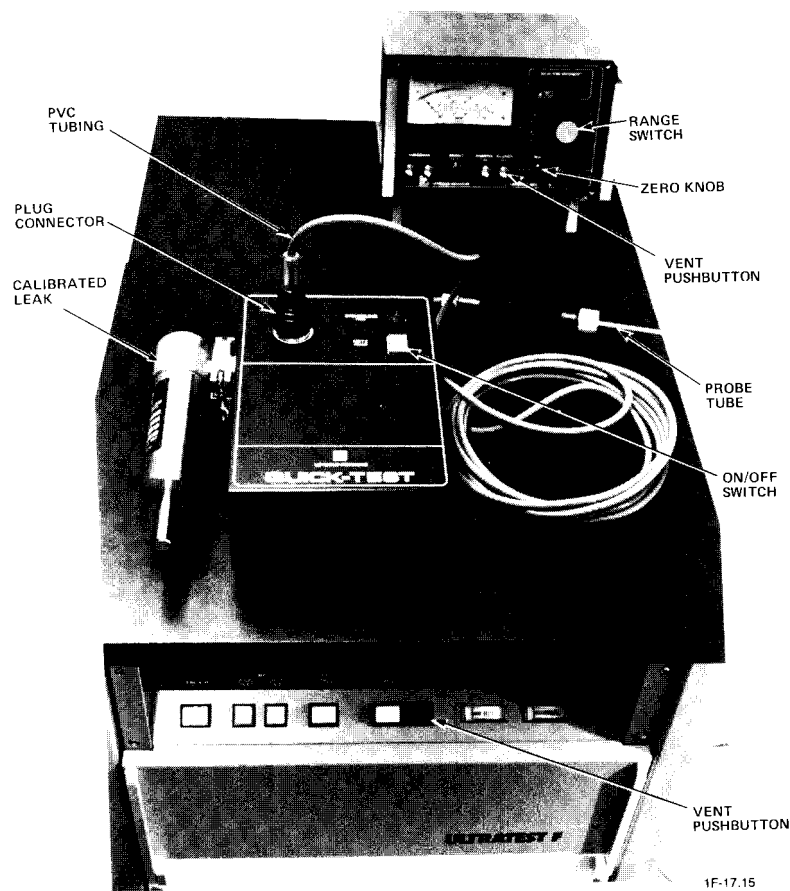

Figure A-2 - QUICK-TEST Installed on the ULTRATEST F
Install the QUICK-TEST onto the leak detector as follows (see Figure A-2).
Screw the plug connector that is on the end of the PVC tubing into its socket on the front of the QUICK-TEST (see Figure A-2).
8. Use a KF clamp ring and centering ring with clean O-ring to attach an optional calibrated leak to the KF-10 flange on the side of the QUICK-TEST (see Figure A-2).
2. Close the  $10^{-8}$  calibrated leak on the QUICK-TEST (see Figure A-2) and the built-in calibrated leak of the ULTRATEST, if installed (see Figure 2-2).
4. NOTE: Ensure that the QUICK-TEST is switched ON (see Fig A-2).
1. Ensure that the QUICK-TEST is switched ON "1" (see Figure A-2).
5. Place your finger over the end of the probe tube of the optional QUICK-TEST and turn the "Zero" knob until the meter registers 0 (see Figure A-2).
- b. Return the range switch to the "1" position (see Figure A-2).
- d. Adjust the emission potentiometer until the needle deflection is within 10 to 20% of full scale (see Figure 8-12). If you want to eliminate the background reading caused by the naturally occurring helium in air, use the ZERO knob to adjust the leak rate to 0 (see Figure A-2).
When troubleshooting an ULTRATEST that has the optional QUICK-TEST remove the QUICK-TEST from the test port and seal the test port (see Figure A-2). If the symptom remains, the problem is in the ULTRATEST. If the symptom clears when the QUICK-TEST is removed, the problem is in the QUICK-TEST.